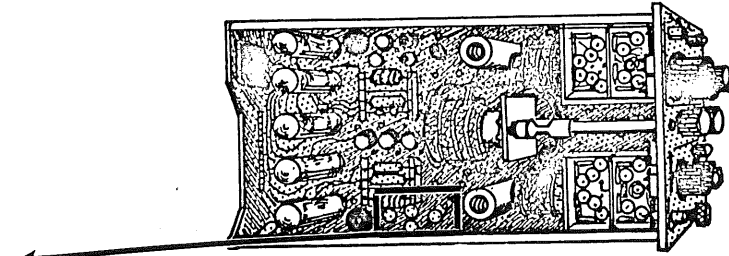

Figure 3-77
15. Adjust the CH 2 Take-off Gain, R286 - See Figure 3-77, for a digital count of 500.